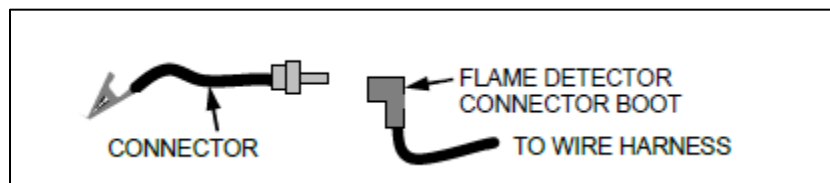

Figure 6-9: Connecting the Flame Signal Generator
6. When the Controller gets into the ignition phase, it will show **Ignition Trial**. At that point attach the alligator clip (Figure 6-9) to any bare metal surface or ground. The Controller displays **Flame Proven** and begins to ramp up to 100% fire rate. Note that no gas or flame is present in the Water Heater at this time.